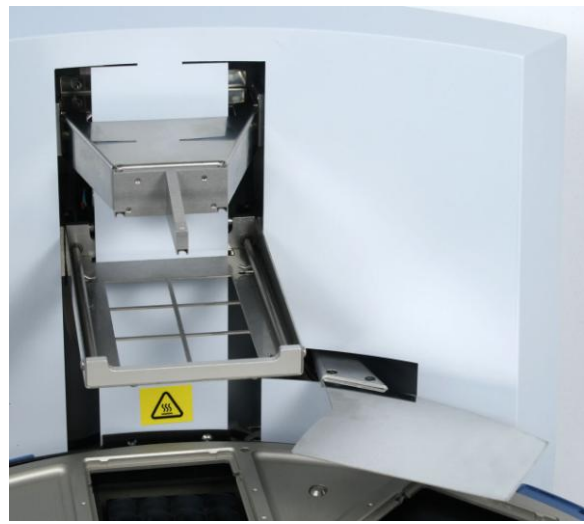

Figure 9. Inserting the shield plate
3. First insert the shield plate into its slot (Figure 9).